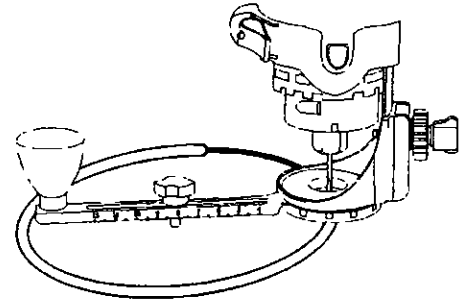

Fig. 14
- 6 When the motor is up to full speed, slowly tip the tool and circle cutter assembly to an upright position, letting the bit cut into the workpiece (see Fig 14) Be careful to keep the pivot point located at the center of the circle to be cut. Once the tool has reached the upright position and the bit has cut through the workpiece, slowly move the tool in a **clockwise** direction using slow steady pressure to make the cut. Continue to cut the circle, keeping the tool upright and rotating around the circle cutter pivot point